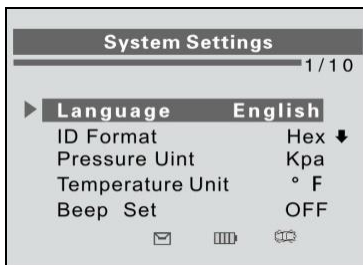

Figure 2.2
- 1) From **System Settings** screen, use the **UP/DOWN SCROLL** button to select **Language**, and press the **Y** button. (Figure 2.2)